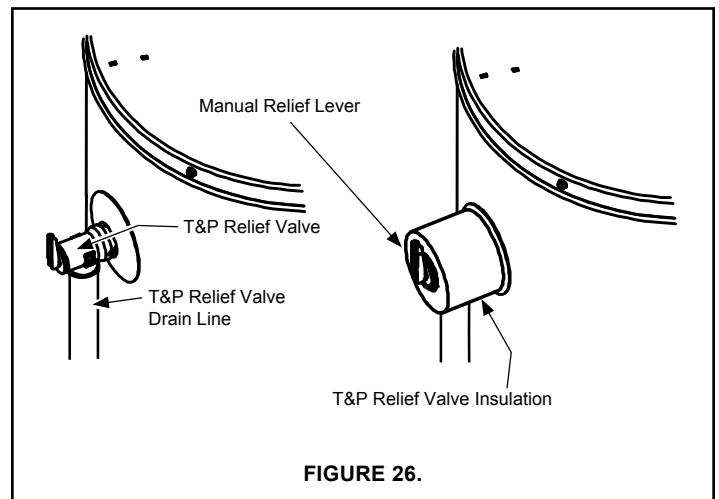

FIGURE 26.
1. Locate the temperature and relief valve on the water heater (also known as a T&P Relief Valve, Figure 26).
3. Spread this slit open and slip it up under the T&P Relief Valve. See Figure 26. Apply gentle pressure to the insulation to ensure it is fully seated on the T&P Relief Valve. Once sealed secure the insulation with a section of duct tape, electrical tape, or equivalent.